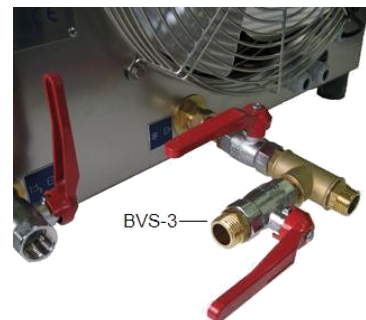
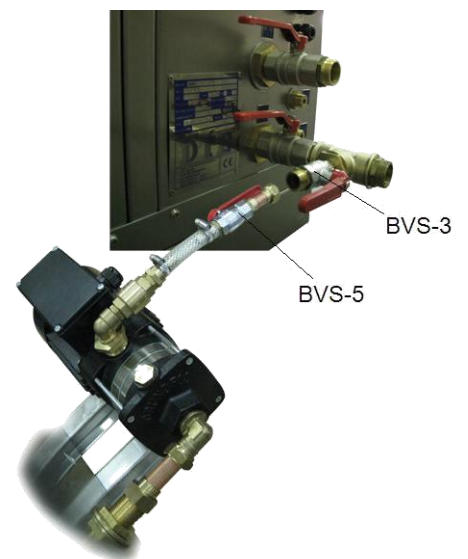

Figure 4.13
Figure 4.14
3. Turn the ball valve (BVS-3) to “open”, (see Figure 4.13 and Figure 4.14).